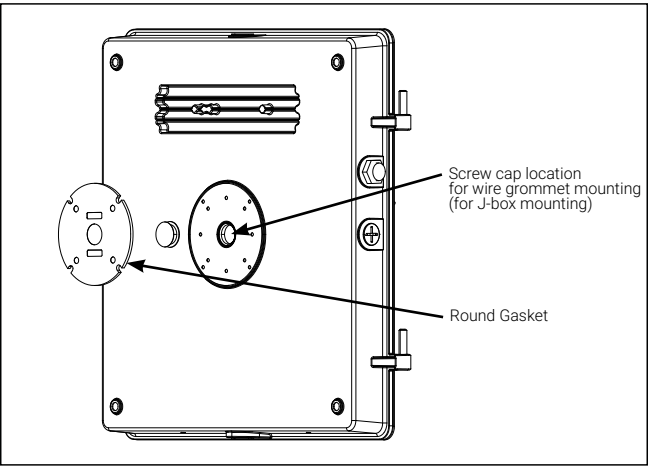

Figure 3
5. If using a junction box, remove the screw cap from the back side. Insert the grommet (supplied in accessory bag) in the hole (Figure 3).